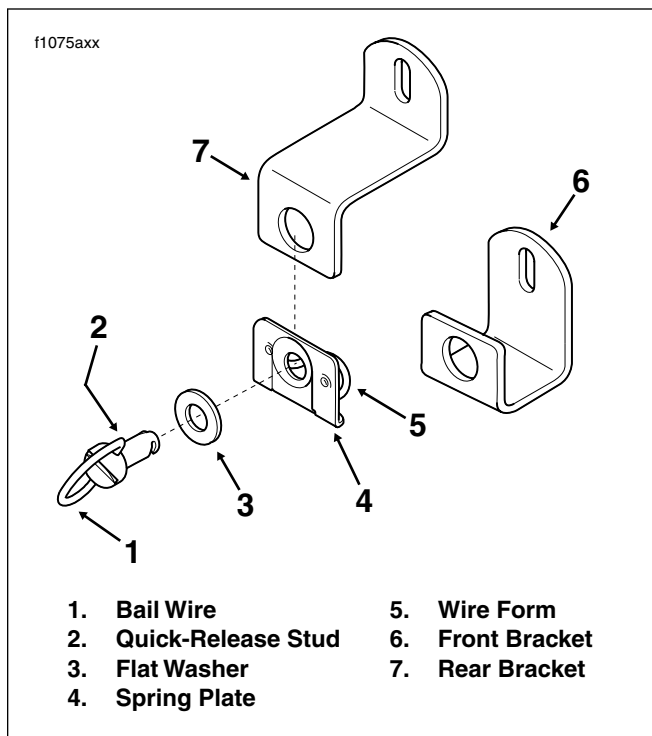

Figure 2-136. Saddlebag Quick-Release Fasteners
- Grasp bail wire inside saddlebag and rotate each stud a full 1/4 turn in a counter-clockwise direction. Remove bail head studs with flat washers. See Figure 2-136.